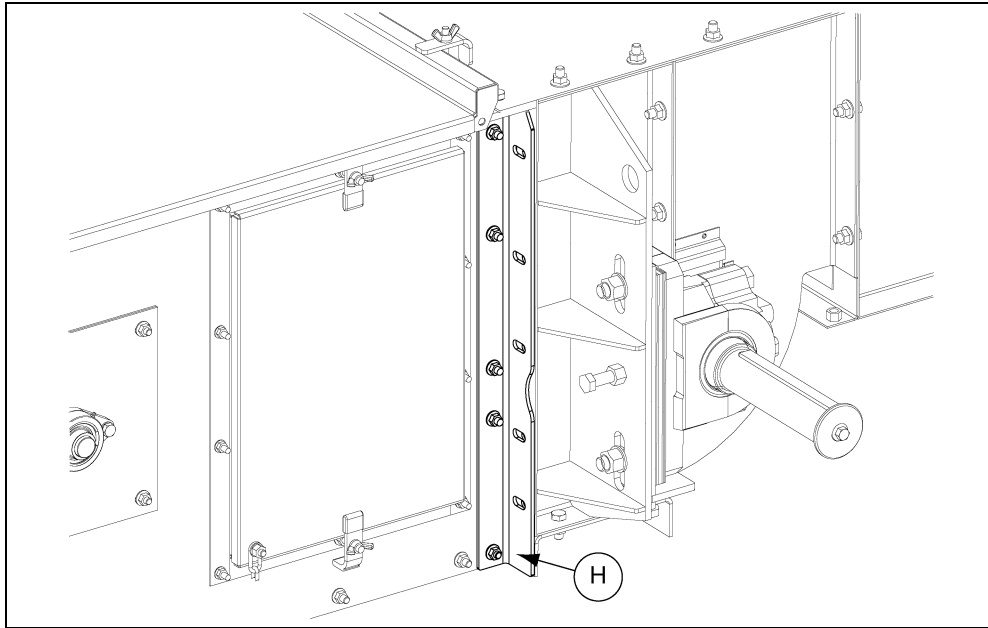

Figure 4D
4. The inspection door end of each intermediate section has adapter angles with slotted holes (H) for bolting to head or tail sections. (See Figure 4D.)